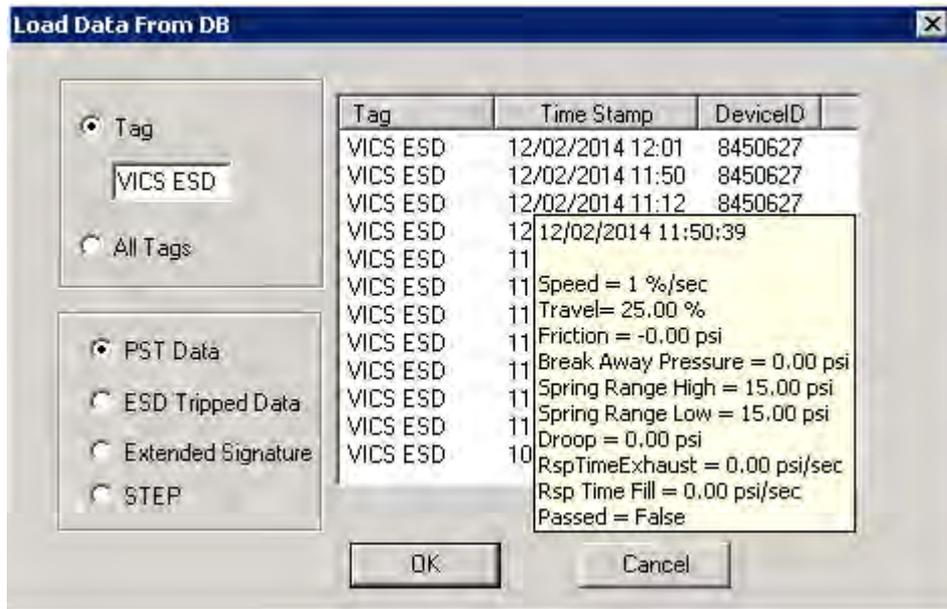

Figure 229 Load Data from DB Tool Tip
*Load from Database Tool Tips; When you hover over a data record name that ESDVue displays all the data for the record (Figure 229).*